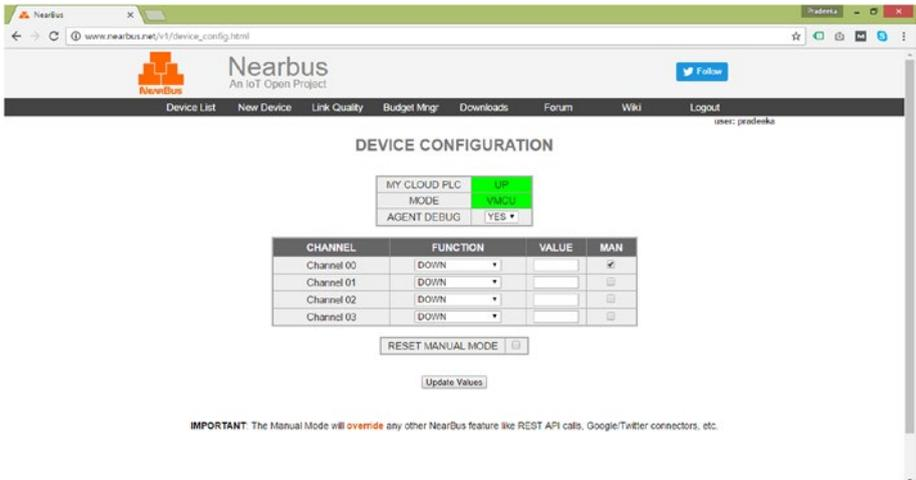

Figure 8-6. The Device Configuration page
2. Select **Config Device** from the *drop-down* list (this is the default selection) and click the **Setup** button. The **Device Configuration** page will appear, as shown in Figure 8-6.